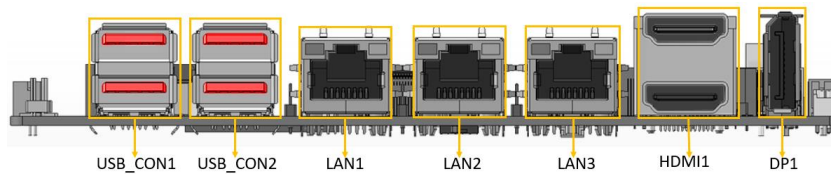

Figure 3-22: External Peripheral Interface Connector
Figure 3-22 shows the WAFER-TGL-U external peripheral interface connector (EPIC) panel. The EPIC panel consists of the following:
- CN Location:** See **Figure 3-22**